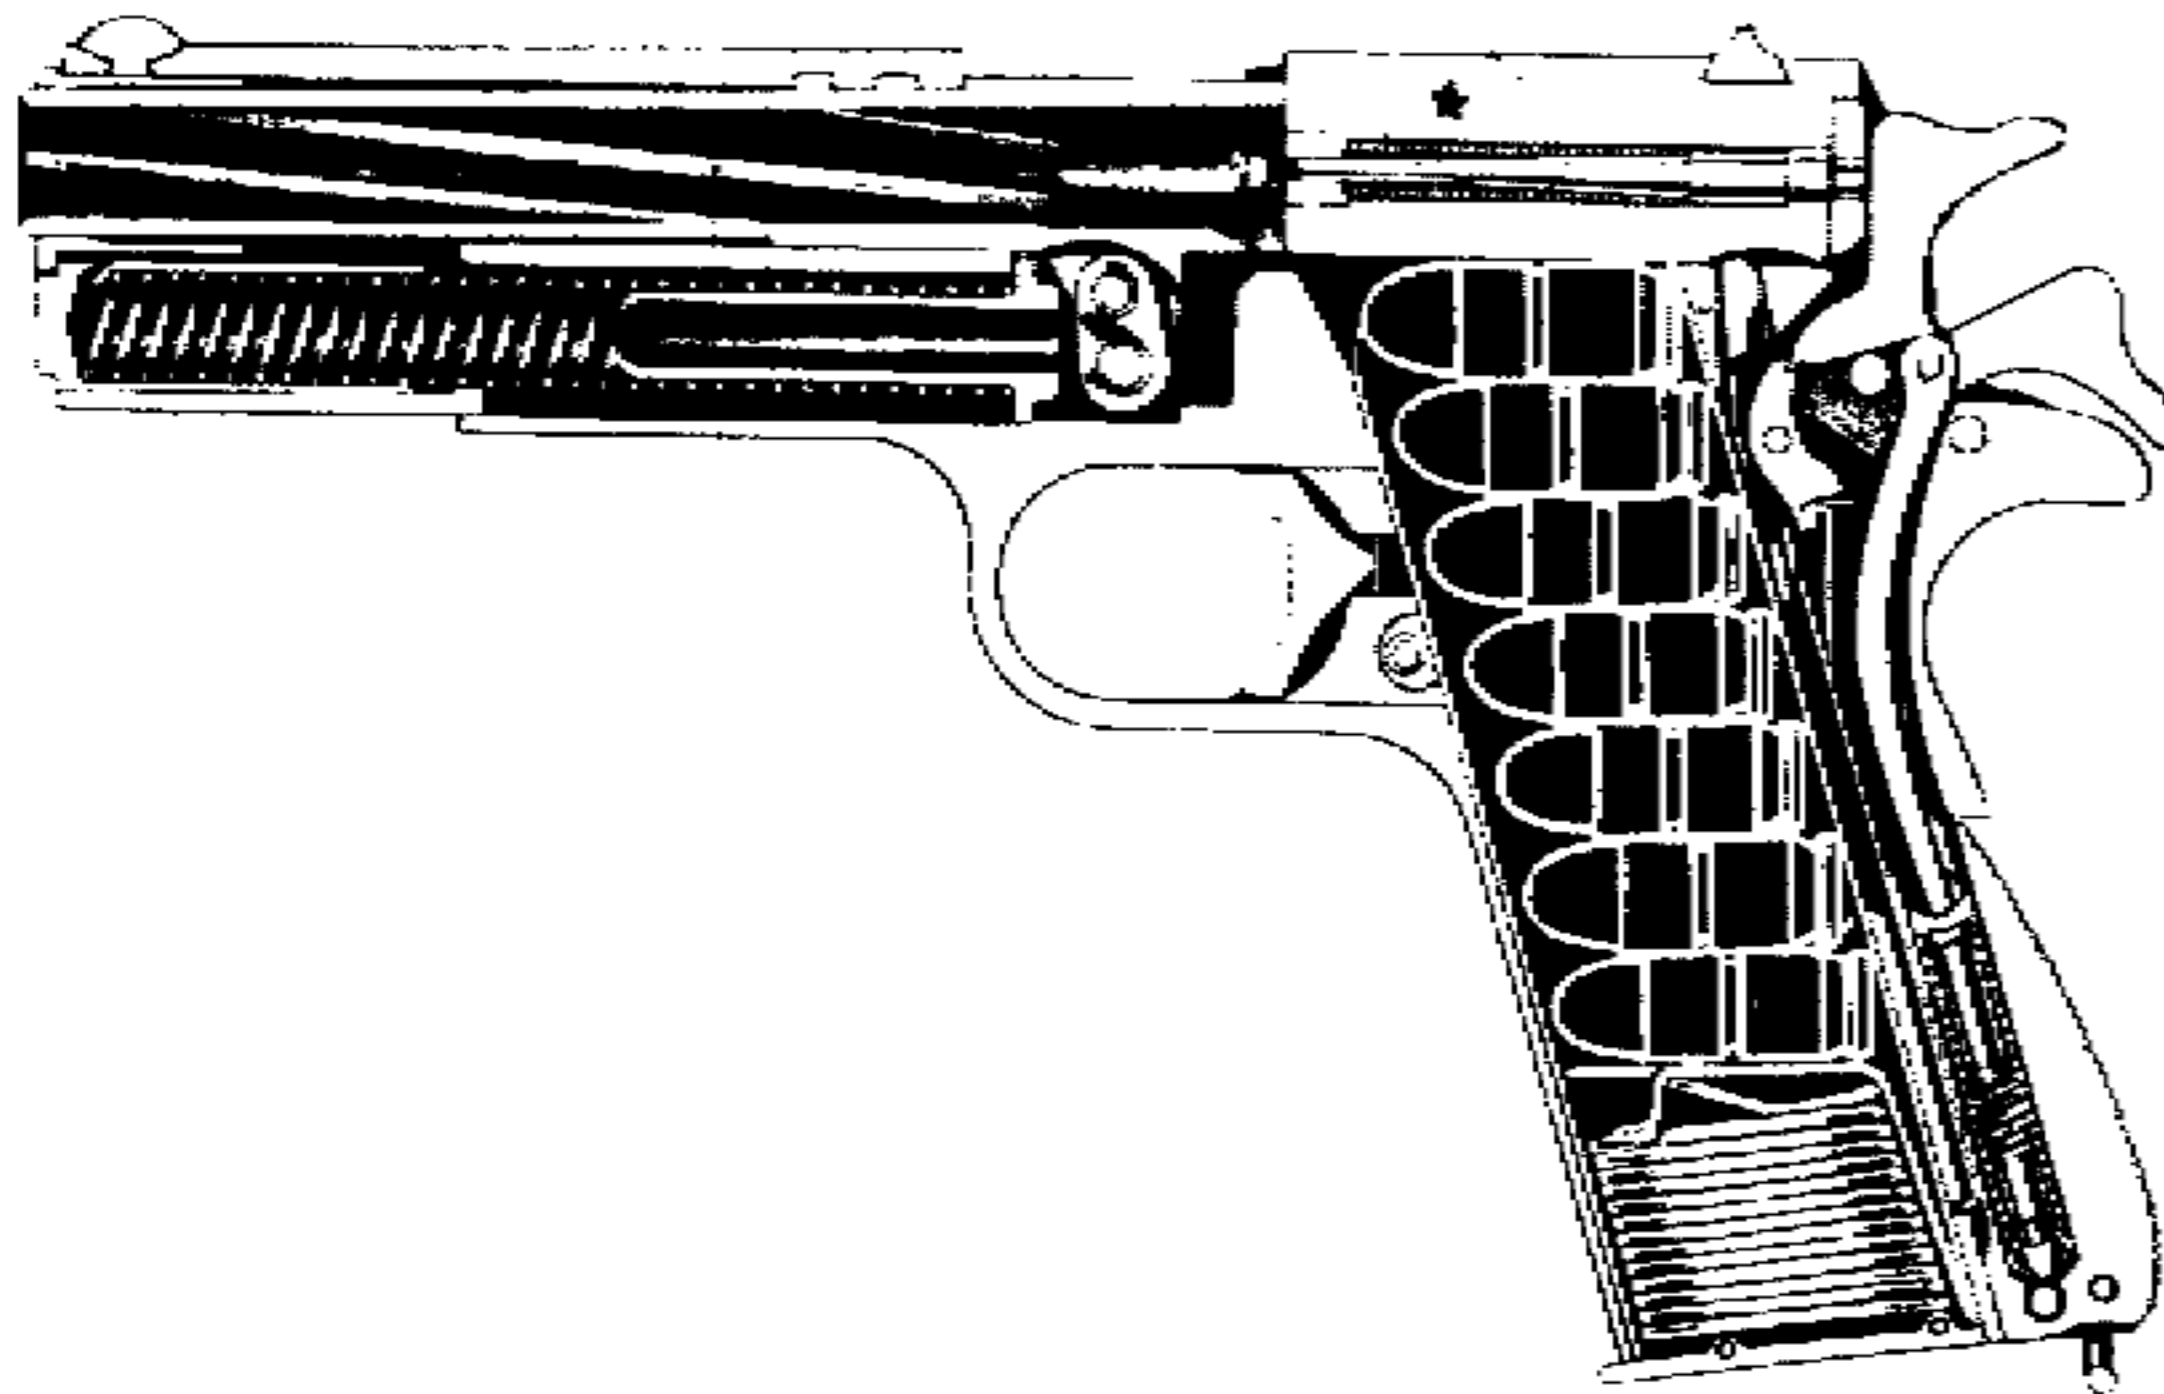
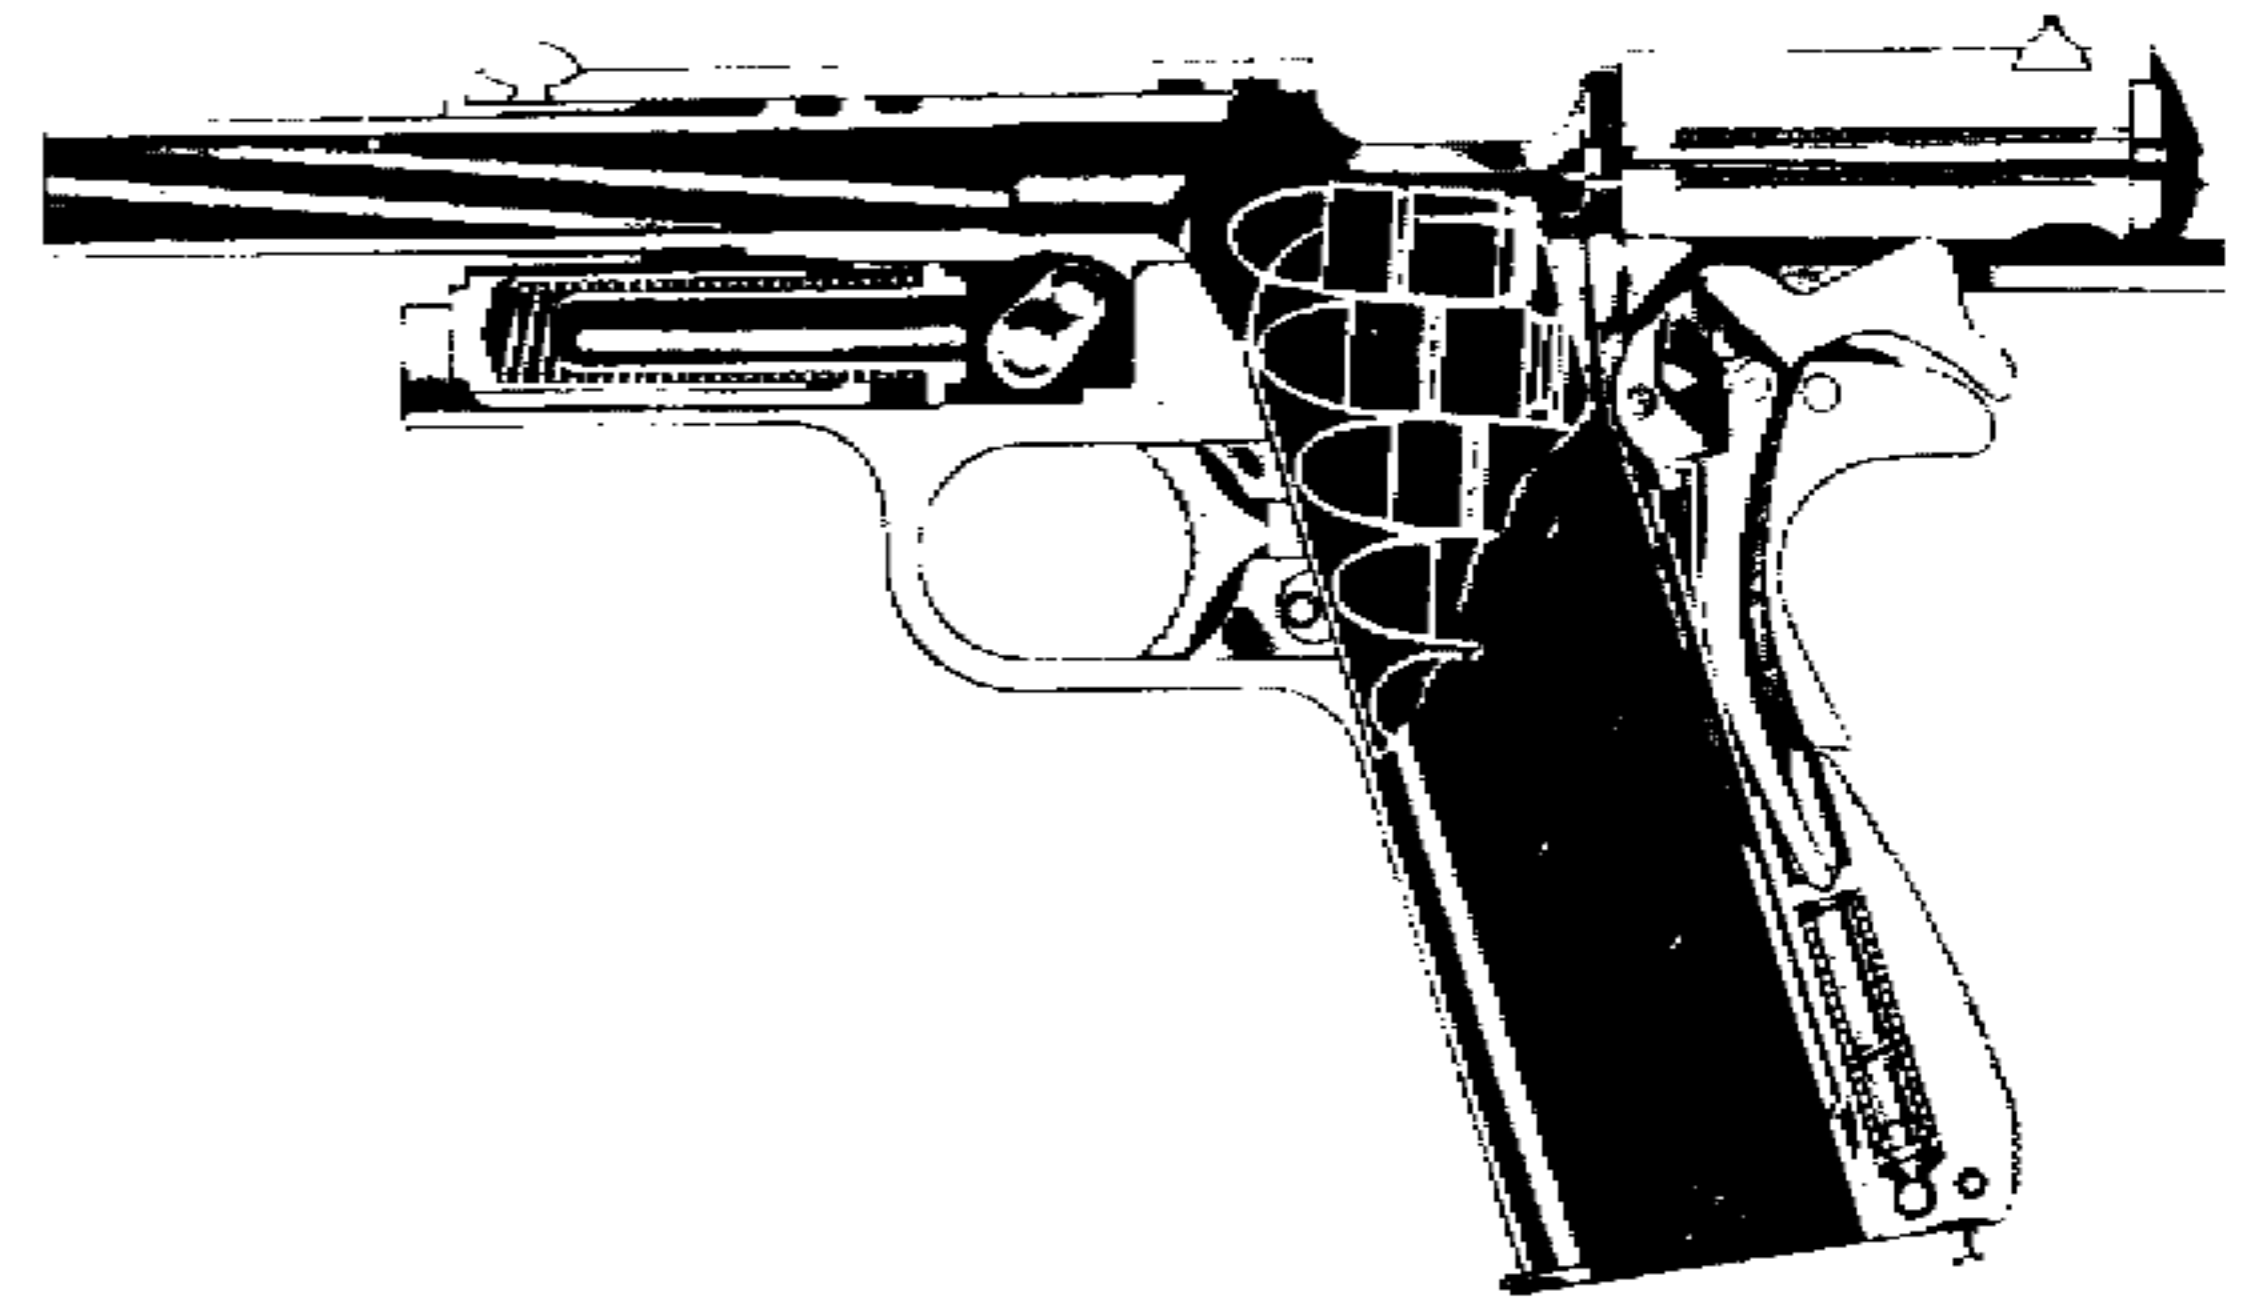
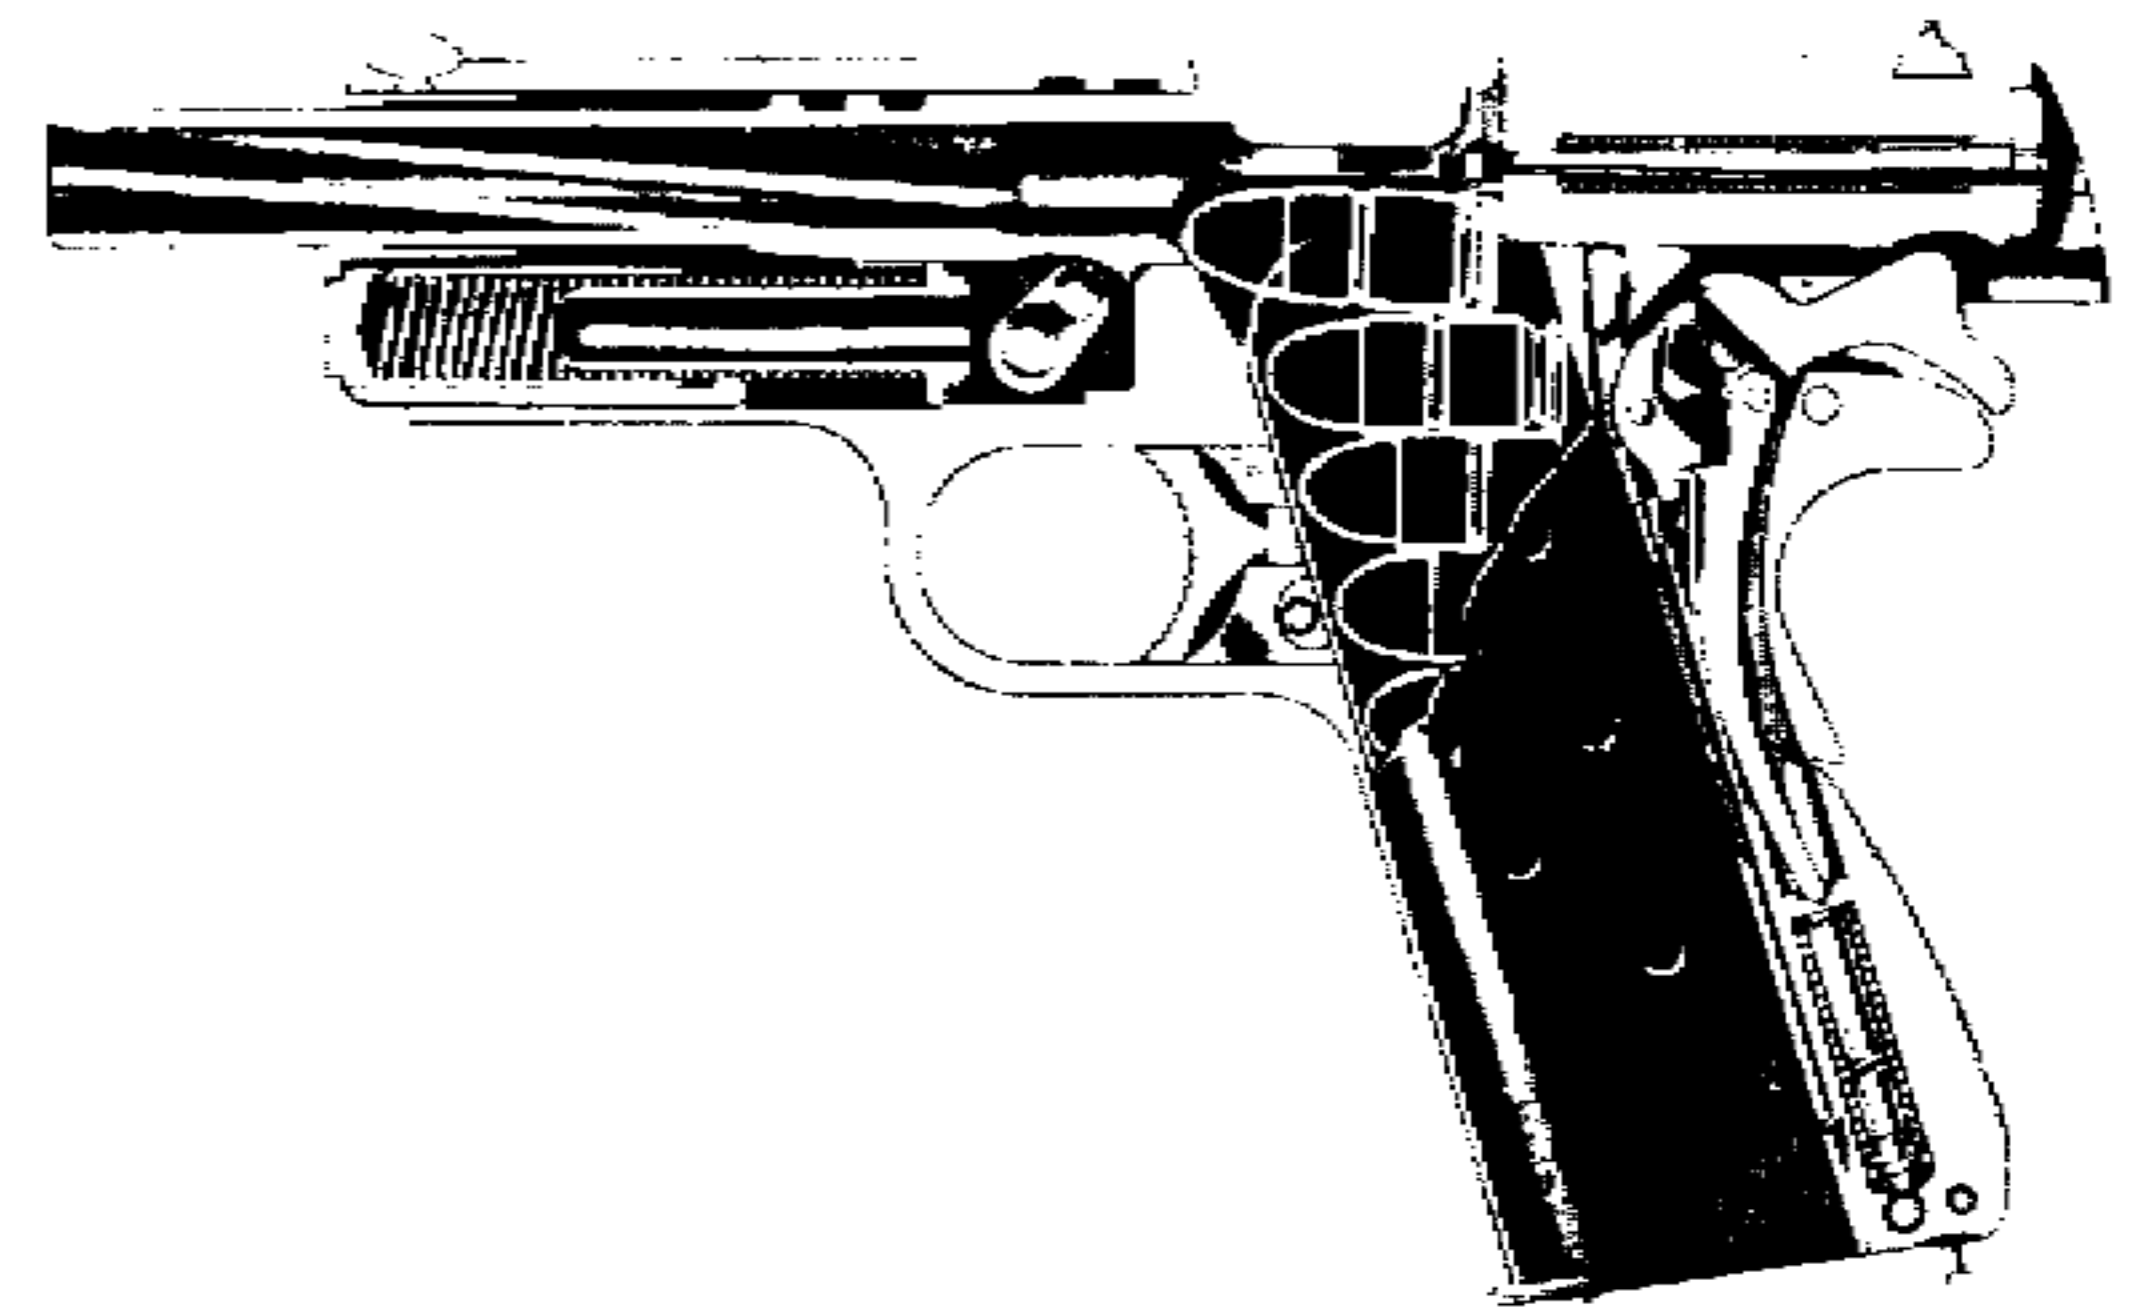
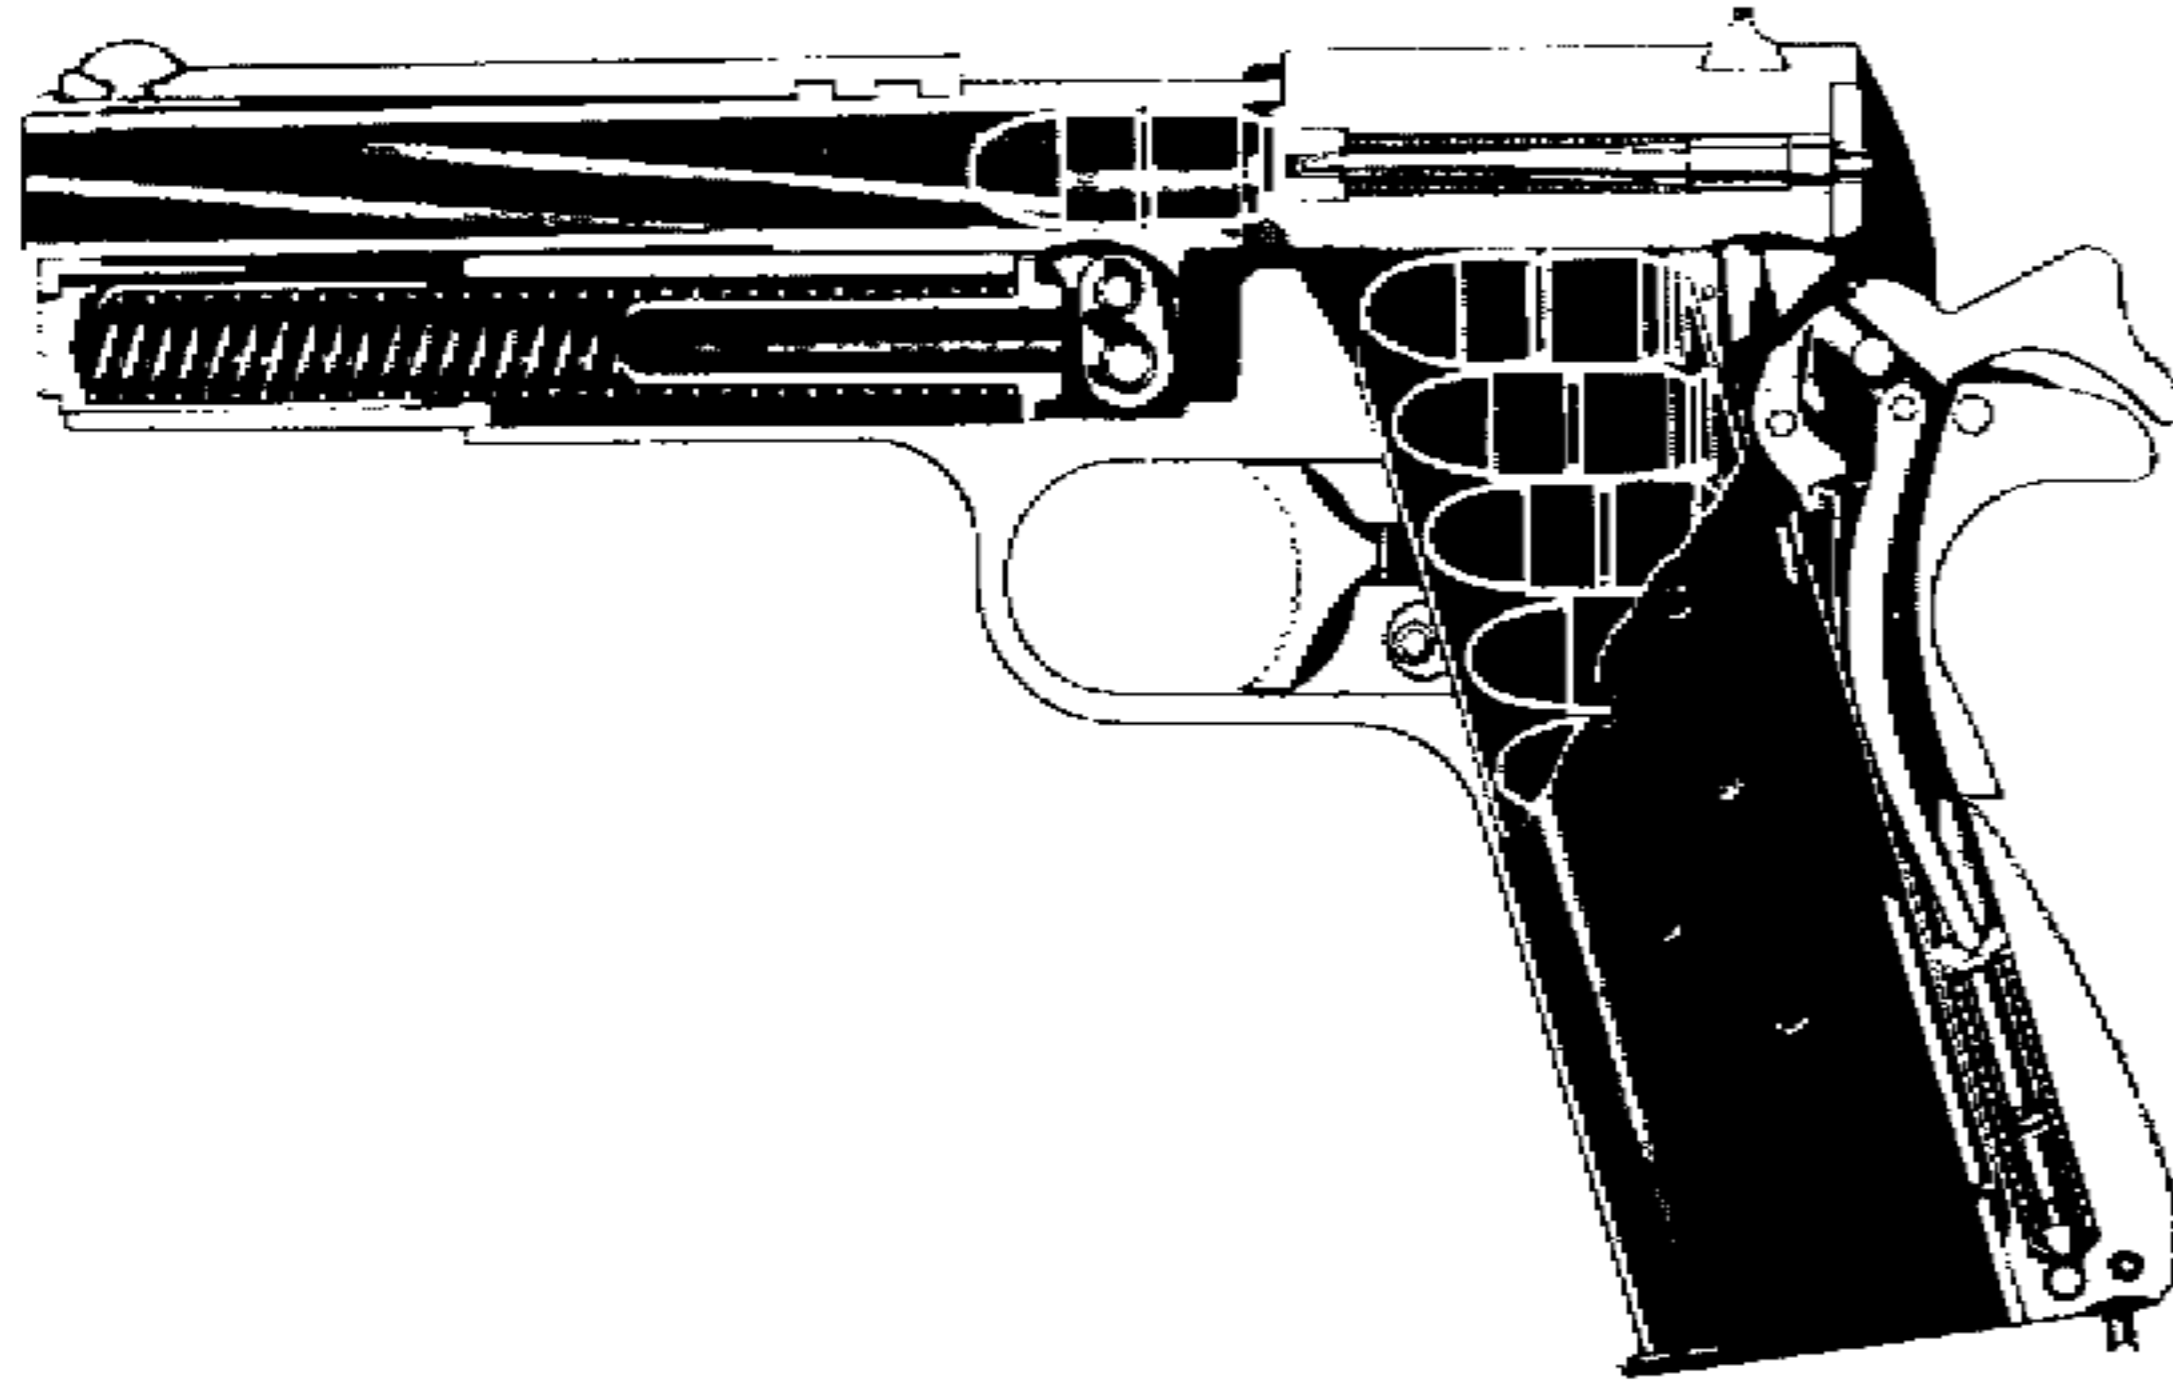

Figure 14. — Sectional View of Pistol M1911A1, Slide Forward, Magazine Loaded, Chamber Empty, Hammer Down
Figure 15. — Sectional View of Pistol M1911A1, Slide Back, Hammer Back, Magazine Full (Enclosed)
Figure 16. - Sectional View of Pistol M1911A1, Slide Partly Forward, Cartridge Entering Chamber, Hammer Back
Figure 17.— **Sectional View of Pistol M1911A1, Slide Closed, Cartridge in Chamber, Hammer Back**
a. In loading, the charged magazine is inserted in the receiver (fig.14) and the slide is drawn once to the rear. This movement cocks the hammer and compresses the recoil spring (fig.15). The magazine follower then raises the upper cartridge into the path of the slide (fig.16). When the slide is released, it is forced forward by the recoil spring and carries the first cartridge into the chamber of the barrel. As the slide approaches its forward position, it encounters the rear extension of the barrel and forces the barrel forward. The rear end of the barrel then swings upward on the barrel link as on a pivot. When the slide and barrel reach their forward position, they are positively locked together by the locking ribs on the barrel and slide. Their joint forward movement is arrested by the barrel lug encountering the pin on the slide stop. The pistol is then ready for firing (fig. 17).